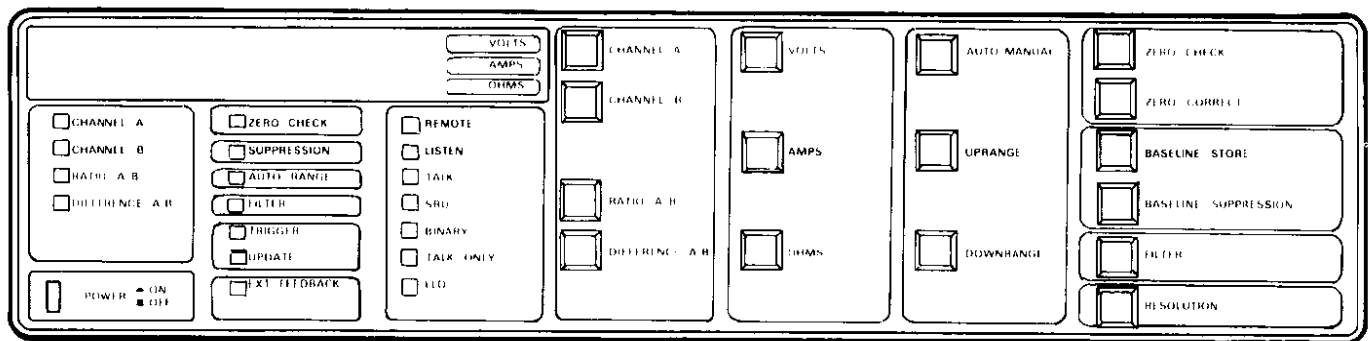

Figure 2-2. Model 619 Front Panel Functions
2. Turn on the power by depressing the ON/OFF push button in the lower left-hand corner of the front panel (see Figure 2-2). Allow one hour for warm up. An additional hour may be required for temperature extremes. Note that the rear panel power switch must also be in the ON position.
3. Upon power up, the Model 619 will go to the default conditions and a beeper will sound for approximately two seconds. The selected frequency and software revision level will also be momentarily displayed. To change any of the default conditions, refer to paragraph 2.27. Input connectors are located on the rear panel of the Model 6194 Electrometer Module. The main input is in the triax connector, with a separate input for the 2 Amp range. An Analog Output is provided for convenience on a DIN connector (refer to Figure 2-2). Connect the measurement source to the input terminals and make the desired measurement. See Table 2-1 for maximum input.
The Model 619 Front Panel has two functional groups, an Annunciator and Display Group and a Function Selector Group. See Figure 2-2.